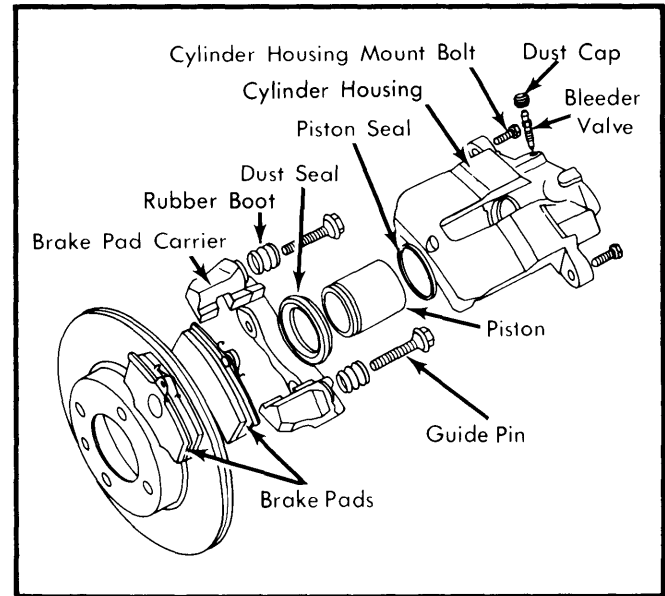

Fig. 2 Audi Fox Disc Brake Caliper Assy.
2) Take an open end wrench and hold guide pin head while removing lower mounting bolt. See Fig. 2. Rotate caliper cylinder upward. Take out disc pads.